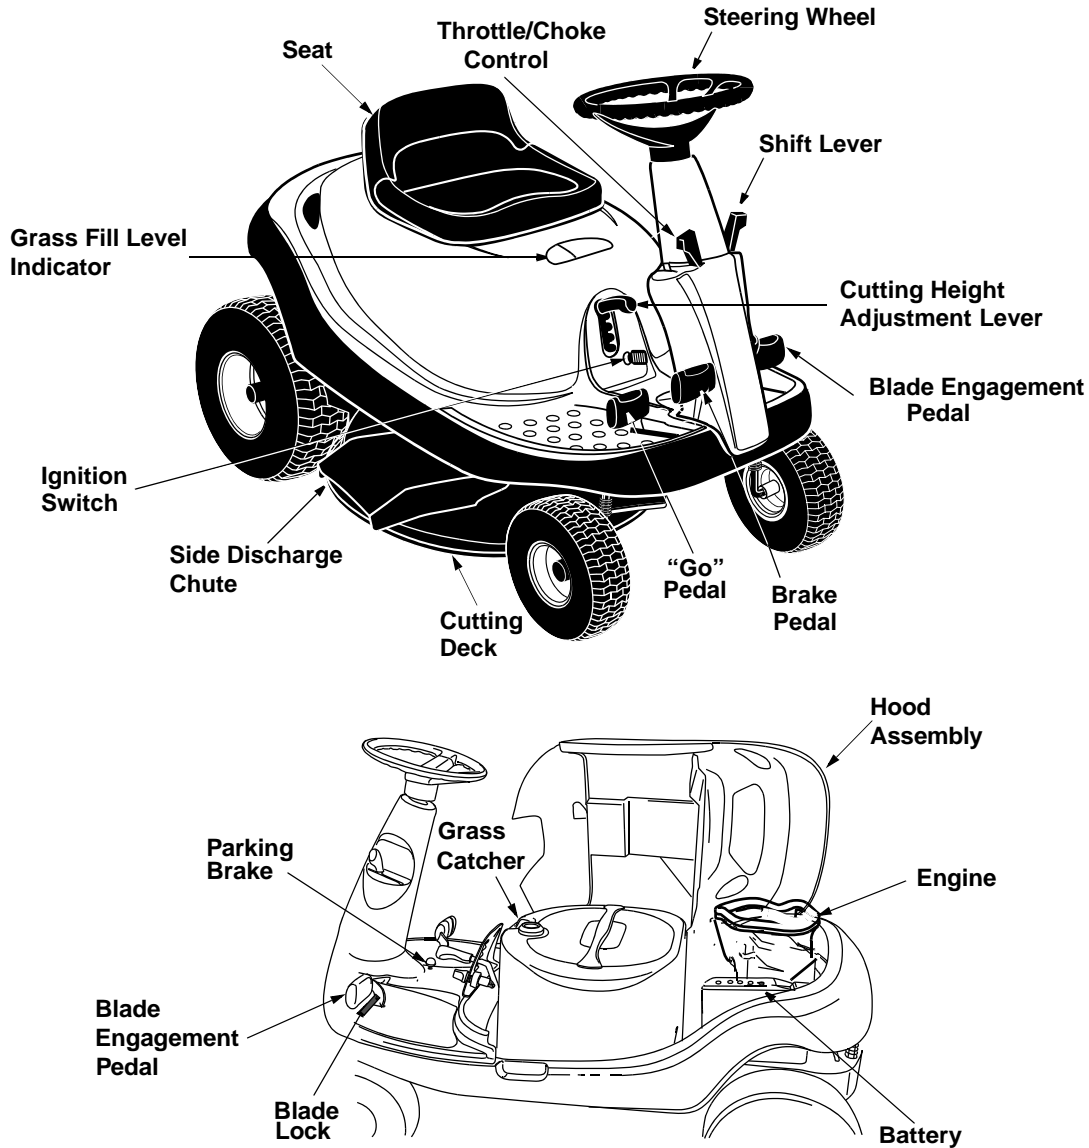

Figure 8
Compare the illustrations in Figure 8 with your rider mower to familiarize yourself with the location of various controls and adjustments. The operation of any rider mower can result in foreign objects being thrown into the operator's eyes, causing severe eye damage. **Always wear safety glasses** before operating the mower, or while performing any adjustments or repairs on it.
**NOTE:** Your rider mower is equipped with a blade lock to keep the blade engaged without the operator having to depress the blade pedal continuously. See Figure 8.